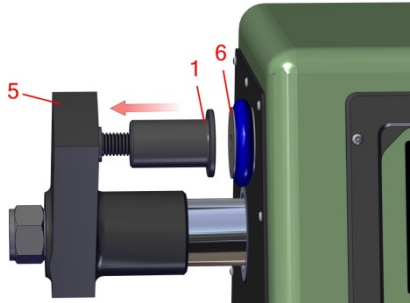

Figure 5.1.2
2. Install the adjustable clamp holder (Figure 5.1.2, Item 1) onto the moveable clamp arm of the strength machine (Figure 5.1.2, Item 5).
3. Choose either the two compression clamps or the two shear clamps. Align the pins located on the back side of the clamps with the holes located on moveable clamp arm (Figures 5.1.2, Item 5) and stationary clamp holder (Figure 5.1.2, Item 6). Gently slide the clamps onto the moveable clamp arm and stationary clamp holder.